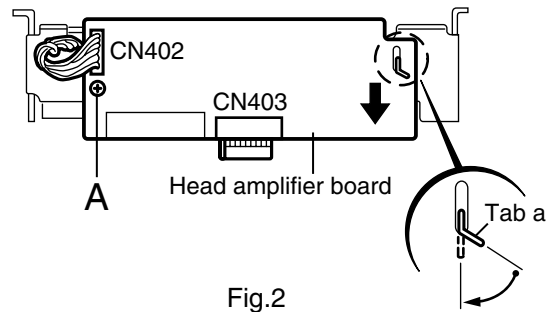

Fig.2
4. Move the tab **a** as shown in Fig.2 and remove the head amplifier board while moving it in the direction of the arrow.